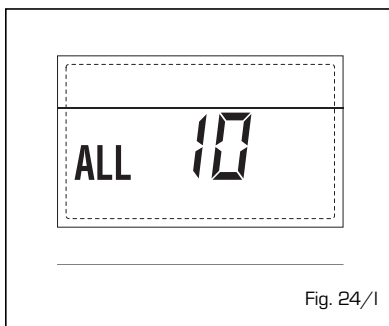

Fig. 24/l
**- MODULATOR ANOMALY ALARM 11 (fig. 24/m)**